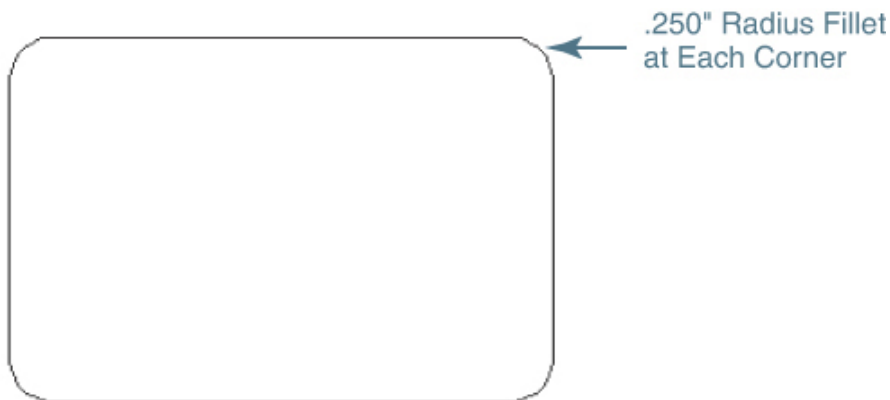

Figure 9-26
After you select the **Fillet** option, enter the radius and press **<Enter>**. After entering the radius, you can create a rectangle using any of the techniques explained previously. Figure 9-26 shows a 3.000" × 2.000" rectangle drawn with .250" filleted corners.
- 3 Draw a 3.000" × 2.000" rectangle in another location with .250" rounded corners similar to the rectangle shown in Figure 9-26 using the **RECTANG** command and the **Fillet** option.